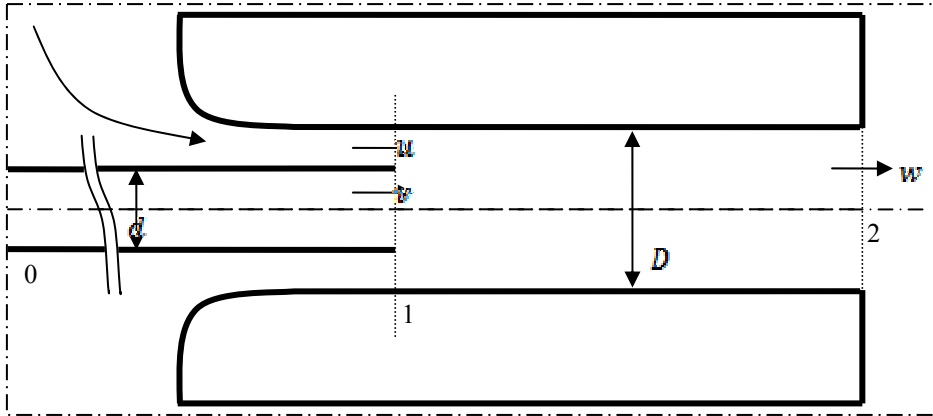

Fig. 5
5. Figure 5 shows a simple “ejector pump” in which a flow forced through a thin-walled inner tube, diameter d , is used to induce a flow into the smooth entry outer body, which in the mixing section has a diameter D . In the inner tube the velocity is v , in the annulus at the axial location 1, the velocity is u , and at the exit location, 2, a sufficient distance from location 1 to enable the flows to fully mix, the velocity is w . The flow is incompressible, has density ρ , and wall friction is negligible. Far from the ejector pump the pressure is p_a . In the thin-walled tube, the annulus at location 1, and at the exit plane 2, the velocities are uniform.